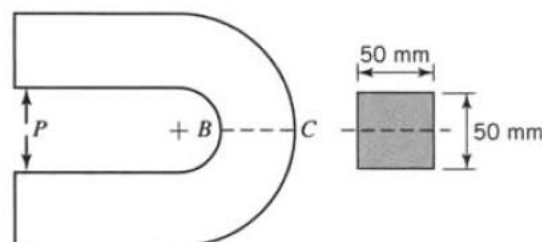

Fig.2
- The frame shown in Fig.2 has a 50 mm square cross section. The load P is located 100 mm from the center of curvature of the curved beam portion of the frame. The radius of curvature of the inner surface of the curved beam is $a=30\text{mm}$. For $P=9.50\text{ KN}$, determine the values for the maximum tensile and compressive stresses in the frame.